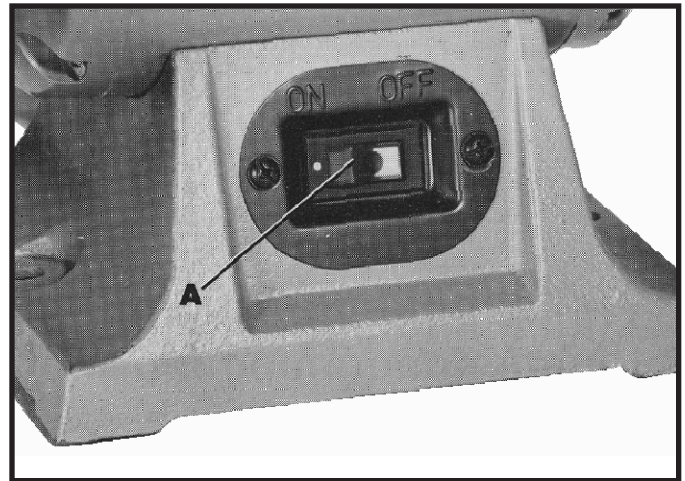

Fig. 10
The switch (A) Fig. 10, is located on the front of the grinder. To turn the grinder "ON" push the left hand portion of the switch and to turn the grinder "OFF" push the right hand portion of the switch.